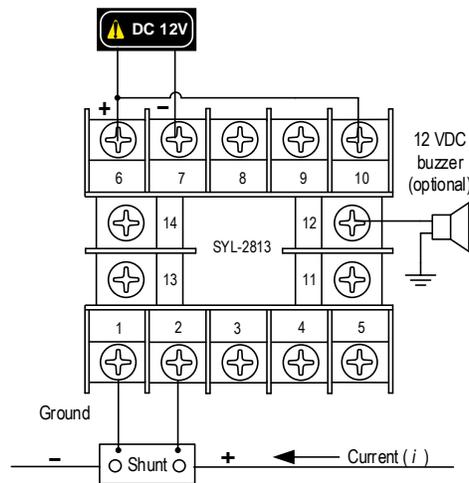

Figure 1. A wiring diagram of measuring direct current with a shunt resistor on Channel1 of a SYL-2813.
- 1) Wiring the gauge and shunt resistor as shown in Figure 1. The shunt used in this example has 50Amp maximum current, and rated with 75mV output voltage.